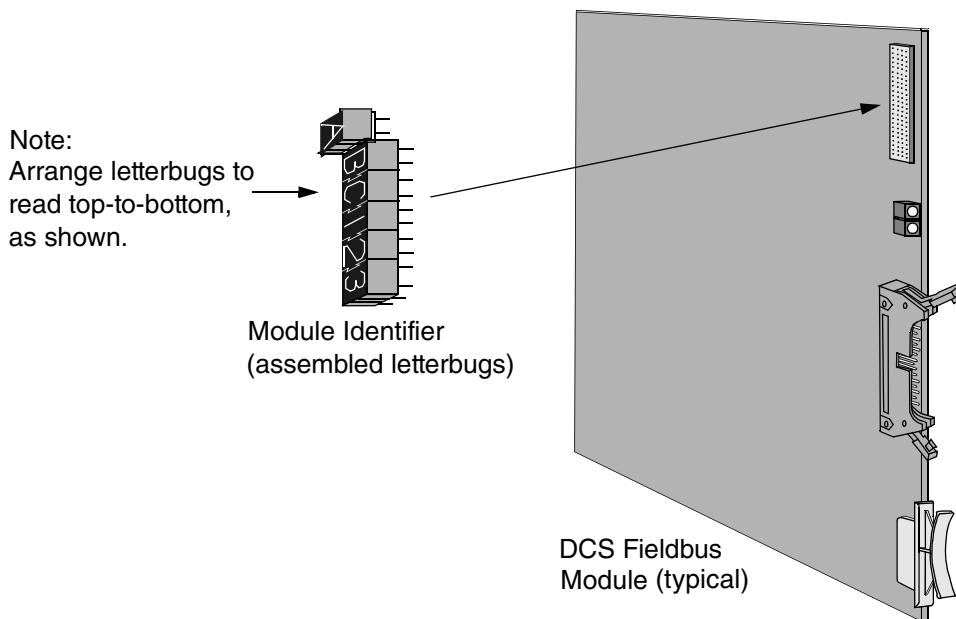

Figure 4-43. Module Identifier (Letterbug) Assembly and Insertion
Assembly of the letterbugs to form a module identifier and the insertion of the module identifier into the DCS Fieldbus Module are shown in Figure 4-43. To assemble and install the module identifiers, proceed as follows:
2. Gather the six letterbugs that form the module identifier and assemble them by inserting the dovetail end of one letterbug into the mating end of the next, until all six letterbugs have been assembled in the proper order (see Figure 4-43).